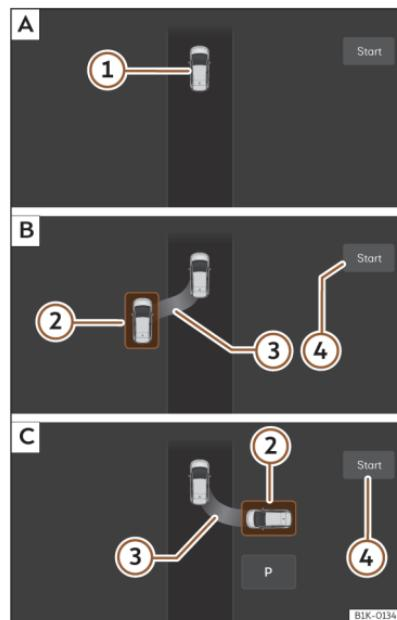

Fig. 145 On the Infotainment system screen. **A:** Finding a parking space **B:** Parallel parking position. **C:** Perpendicular parking position.
- Look at the display on the infotainment system's screen to see if the space has been detected as "appropriate" and if the correct position for parking has been reached >>> **Fig. 145** B or C. Stop the vehicle and follow the instructions shown on the infotainment screen.
- Stop the vehicle, press the brake and, after a short pause, press the Start ④ button in the infotainment system.